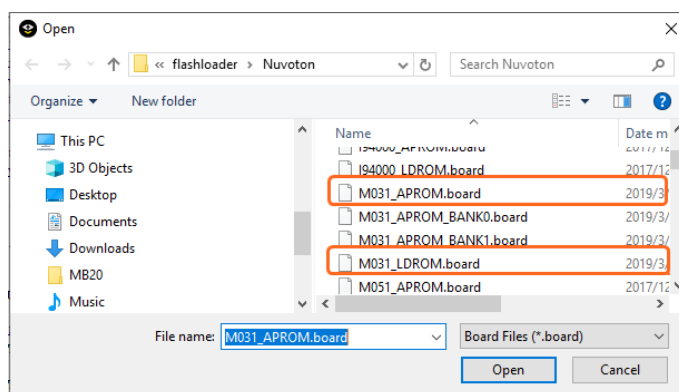

Figure 5.2-30 Select.board File for IAR EWARM
- (6) In the **Download** tab of the **Debugger** page, select the **Override default .board file** option if you want the firmware to be downloaded to APROM or LDROM, and then specify the *M031_APROM.board* or *M031_LDROM.board* file (M031 series is used in this case). If no file is founded, specify the following path “*\$TOOLKIT_DIR\$\config\flashloader\Nuvoton*”, as shown in Figure 5.2-30.